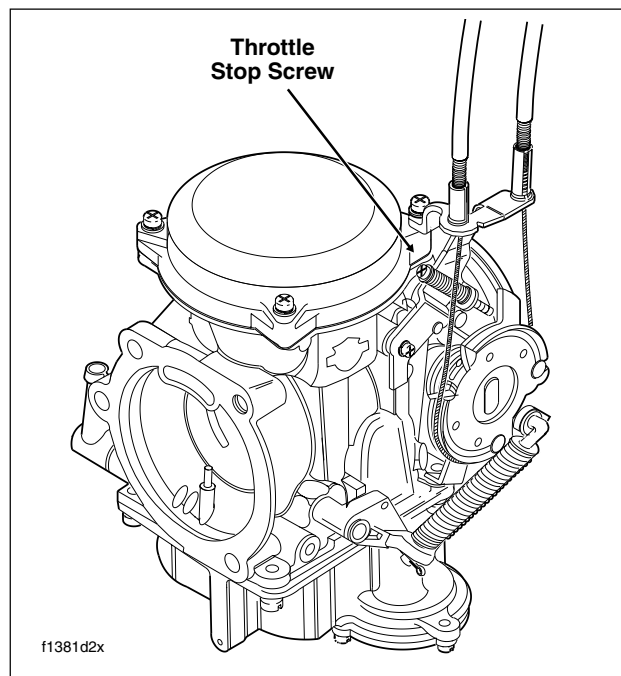

Figure 1-23. Idle Speed Adjustment
1. See Figure 1-23. With the engine at normal operating temperature and the enricher all the way in (enricher valve closed) adjust the throttle stop screw so the engine idles at 950-1050 rpm.